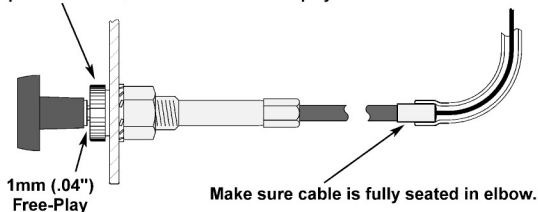

Figure 9
- B. After mounting the choke cable, check the free-play. Loosen the knurled plastic friction nut behind the choke knob for this test (Figure 9).